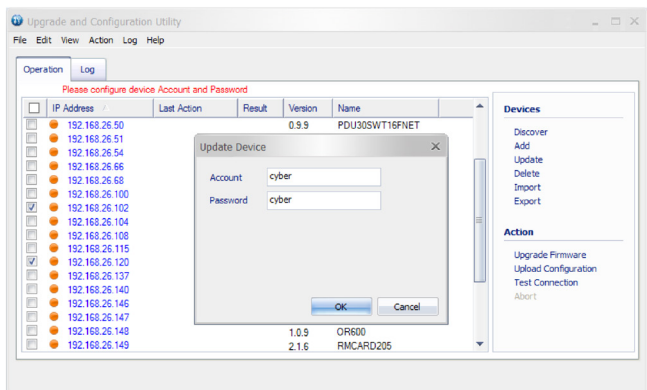

Figure 3
- Make sure **Account** and **Password** are valid on selected devices (Shown in Figure 3).